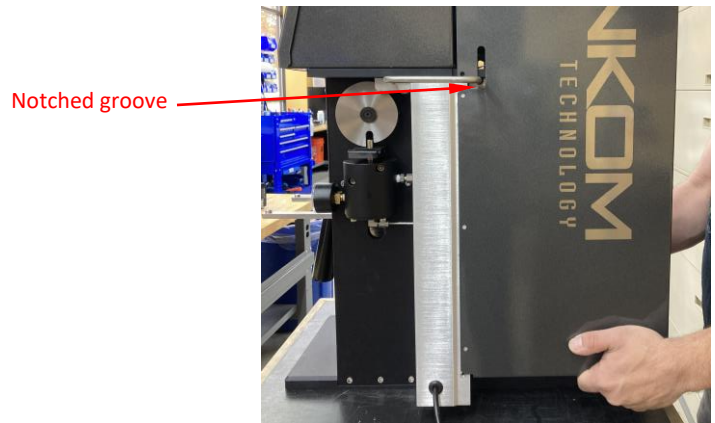

Figure 2
- b. Lift up, then pull back so the handles on each side slide out of the notched groove. See Figure 2.